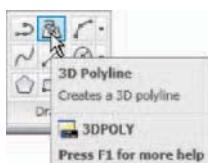
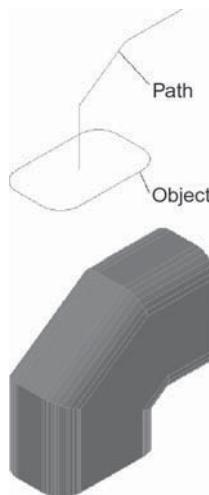

Fig. 12.17 The **3D Polyline** tool from the Home/Draw panel
Fig. 12.18 Third example – **Extrude**
Third example – Extrude (Fig. 12.18)
1. Place the screen in the **ViewCube/Top** view and construct a rectangle of size **80 × 50**, filleted to a radius of **15**. Place the drawing in the **View Cube/Front** view and using the **3D Polyline** tool from the **Home/Draw** panel (Fig. 12.17) construct a 3D polyline of three plines each of length **45** and at **45°** to each other at the centre of the outline as shown in Fig. 12.18.
The result is shown in Fig. 12.18.